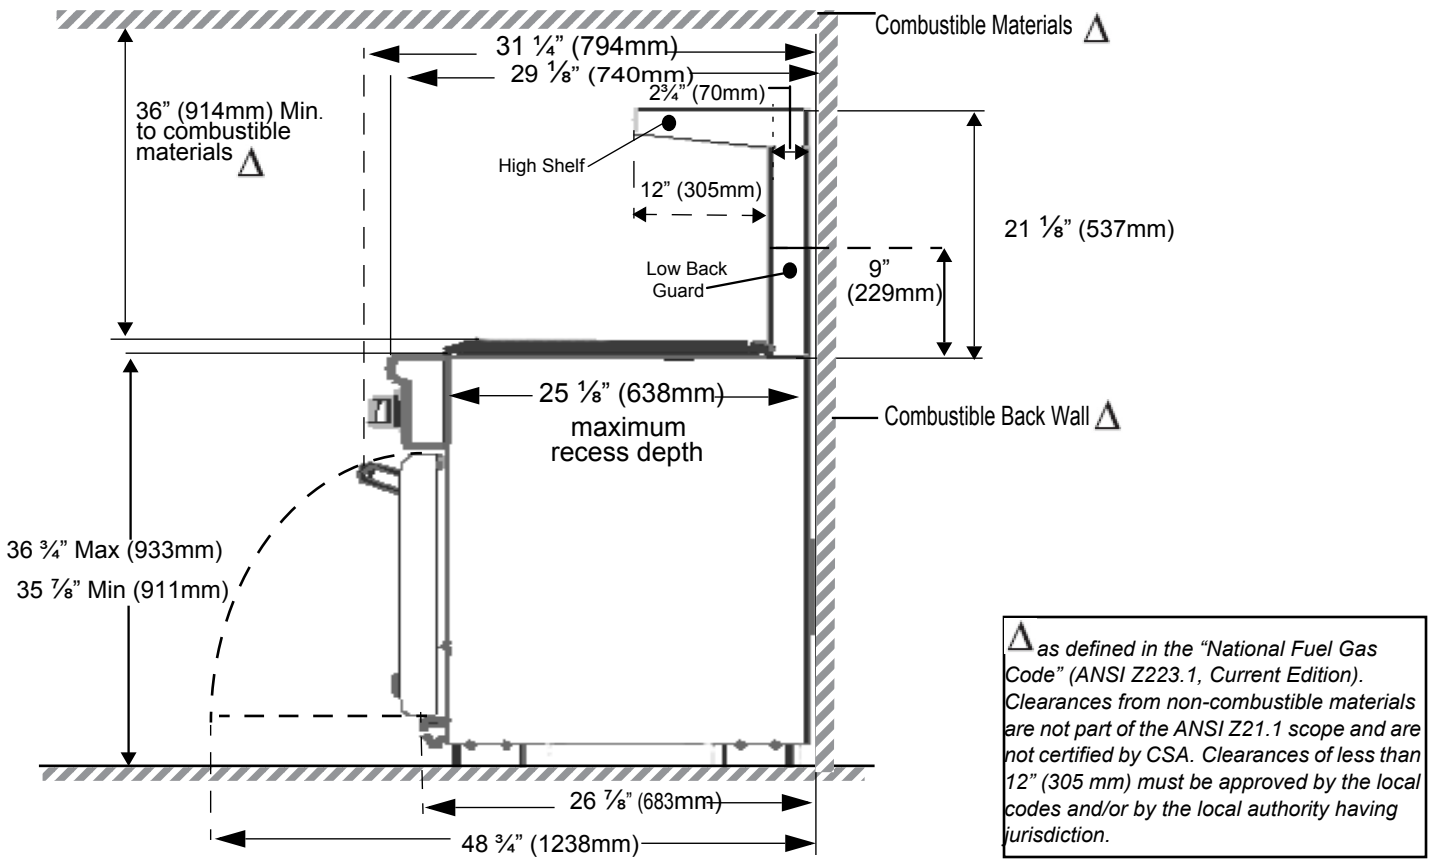

Figure 2: Installation Clearances with High Shelf or Low Backguard
- The range should not be recessed into the cabinets beyond the edge of the front face of the oven (see Figure 2 on page 6).